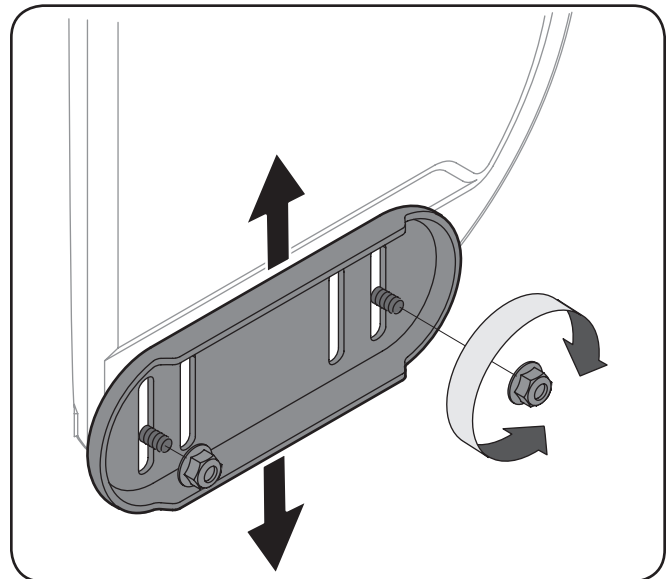

Figure 3-10
1. Loosen the four hex nuts (two on each side) and carriage bolts. Move the skid shoes to the desired position. See Fig. 3-10.